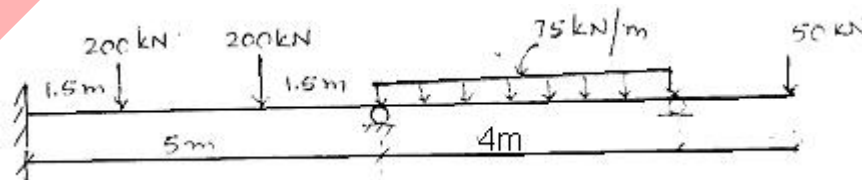

Figure 2
- 12 Analyse the beam shown in figure 2 by slope deflection method and draw B.M.D. EI is constant. (10)